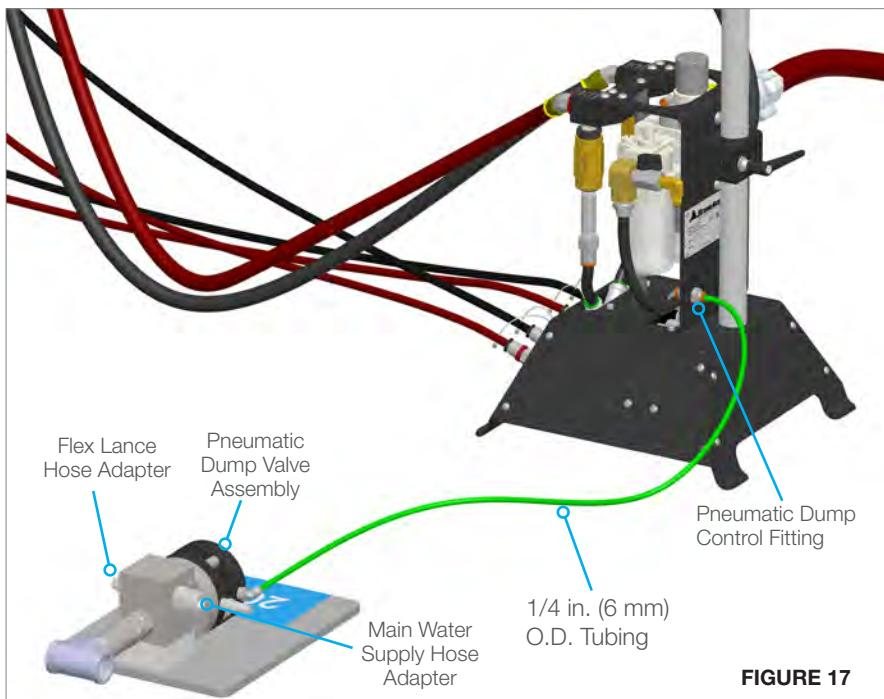

FIGURE 17
26. Install the 1/4 in. (6 mm) O.D. Tubing between the Pneumatic Dump Control Fitting located on the back of the Control Box and the fitting on the Pneumatic Dump Valve Assembly. (**Figure 17**)
27. Install Main Water Supply and Flex Lance Hose Adapters. Be sure to use the appropriate anti-seize, thread lubricant, and/or pipe tape as recommended in the StoneAge Tool Fittings and Accessories Catalog at the link below. (**Figure 17**)